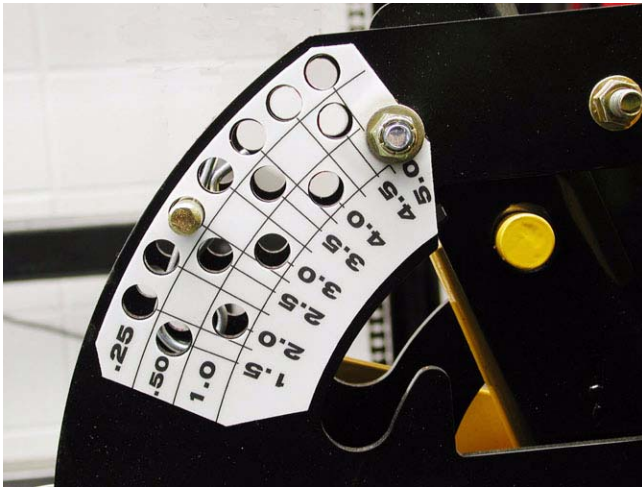

Figure 8.3
- 8.3. The deck lift goes has finer increments of adjustment. See Figure 8.3.